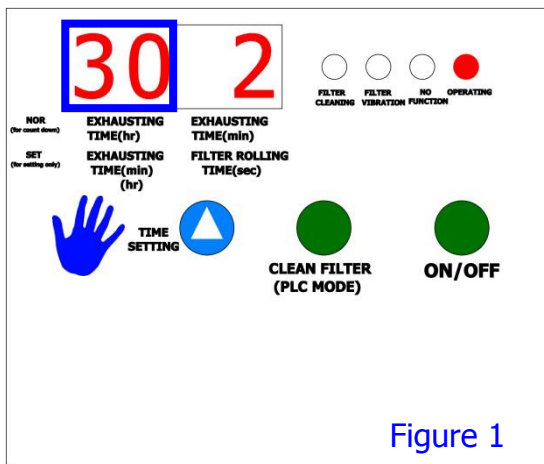

Figure 1
2. When IC Panel in SET position, press (figure 1) to set exhausting time, from 30 mins to 1 hour (figure 2)